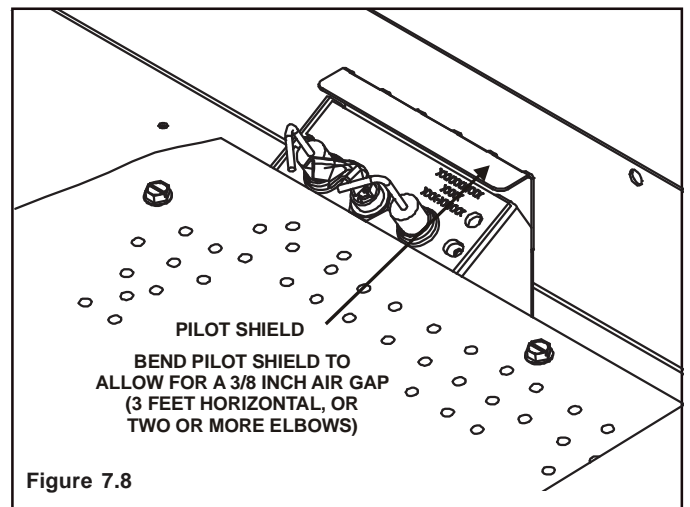

Figure 7.8
**Note:** When venting this unit with long horizontal runs and/or multiple elbows, the pilot shield will need to be in the opened position (see Figure 7.8).